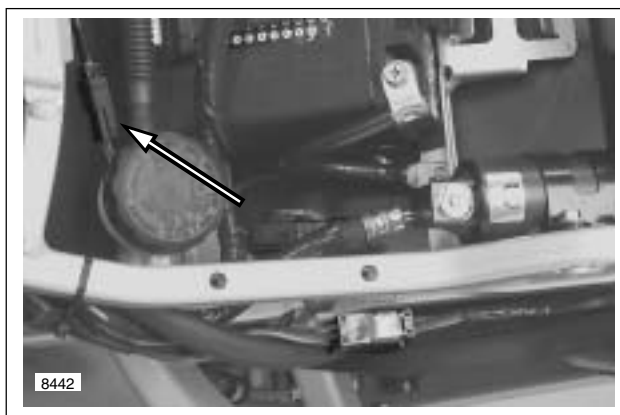
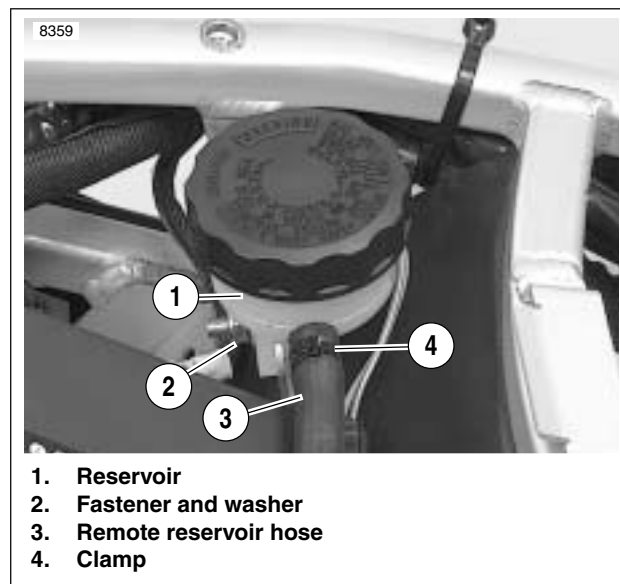

Figure 2-50. Brake Line Switch Connector
Figure 2-52. Remote Reservoir
6. See Figure 2-50. Disconnect brake light connector located under the seat.
10. See Figure 2-52. Detach remote reservoir.
- a. Remove top clamp (4) on hose connected to master cylinder.
- b. Remove fastener (2) to detach reservoir (1) from frame if necessary.
4. See Figure 2-52. Connect remote reservoir.
- a. If removed, attach remote reservoir (1) to frame using clamp fastener (2). Tighten to 48-72 **in-lbs** (5.4-8.1 Nm).
- b. Attach hose (3) to rear brake reservoir using clamp.
5. See Figure 2-50. Connect brake line switch connector under seat.